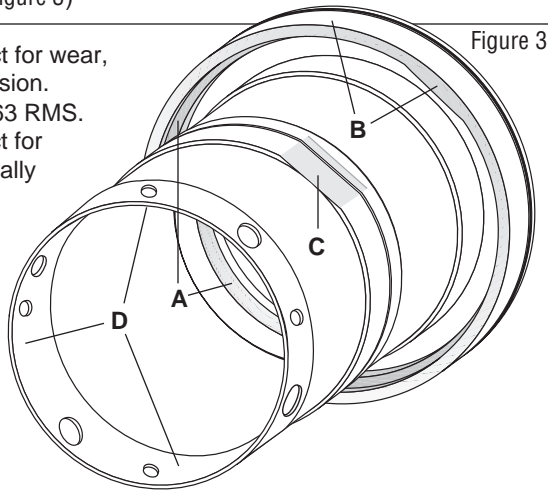

Figure 3
3.3 Sleeve Assembly (SL) (Figure 3)